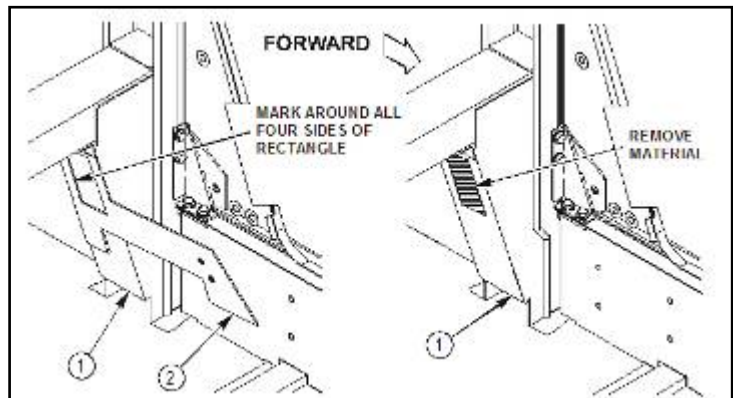

Figure 8a.
1. Place M00629BAS001-01M1 sail plate/B-post cutout template (2) on B-beam (1) as shown in figure 8a, and mark area to be removed. Remove template (2).
2. Remove material from B-beam (1) as shown in figure 8a.